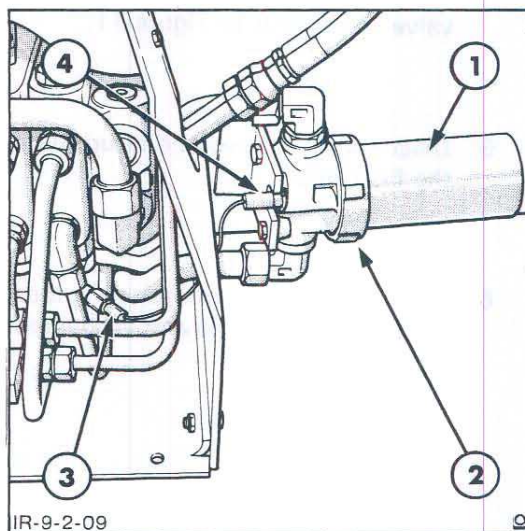

Figure 9
2. Remove the cab step plate and disconnect the connector for the electrical pressure differential warning switch, Figure 9.